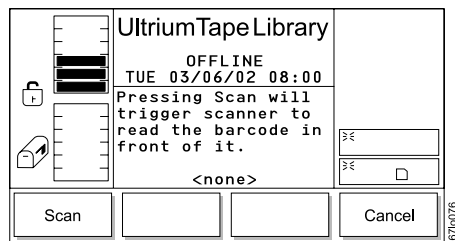

Figure 293. Reader Dialog
6. Press the button below the **Scanner** softkey. The Reader Dialog displays (see Figure 293).